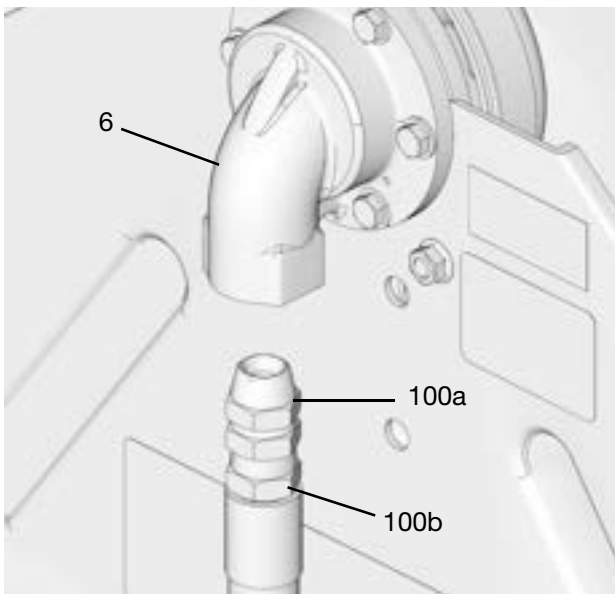

FIG. 4
2. Attach union adapter to inlet (6) (FIG. 4).
3. Apply pipe thread sealant or wrap PTFE tape around the threads (6) of inlet hose (100b) (FIG. 4) (if needed).
4. Attach union adapter (100a) to inlet hose (100b) (FIG. 4). Use a wrench to tighten the connection.